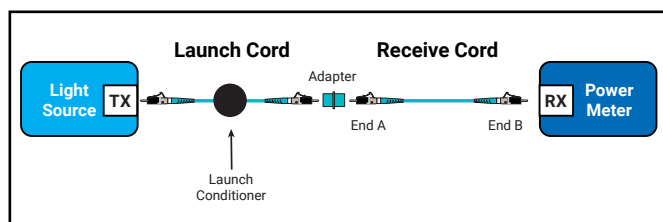

Figure 3b. Verify the received cord
7. Connect the tail test cord between the power meter and launch cord using the test adapter (see Figure 3b).